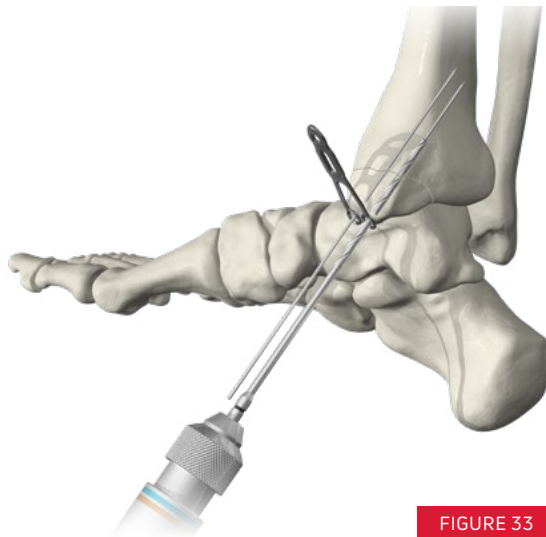

FIGURE 33
5. Drill the distal pilot hole with the corresponding drill diameter (**FIGURE 33**).